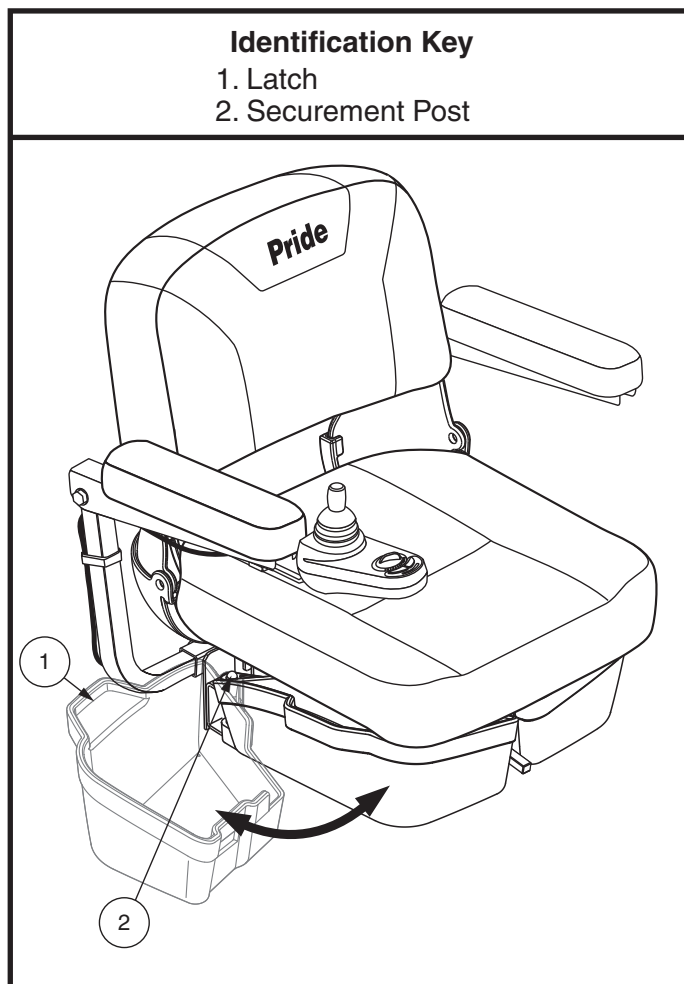

Figure 12. Under-seat Storage
1. Lift up slightly on the latch on the side of the under-seat storage bin (**See figure 12**) and swing the under-seat storage bin out and away from the travel chair.
1. Lift up slightly on the latch on the side of the under-seat storage bin (**See figure 12**) and swing the under-seat storage bin out and away from the travel chair until it is fully open.